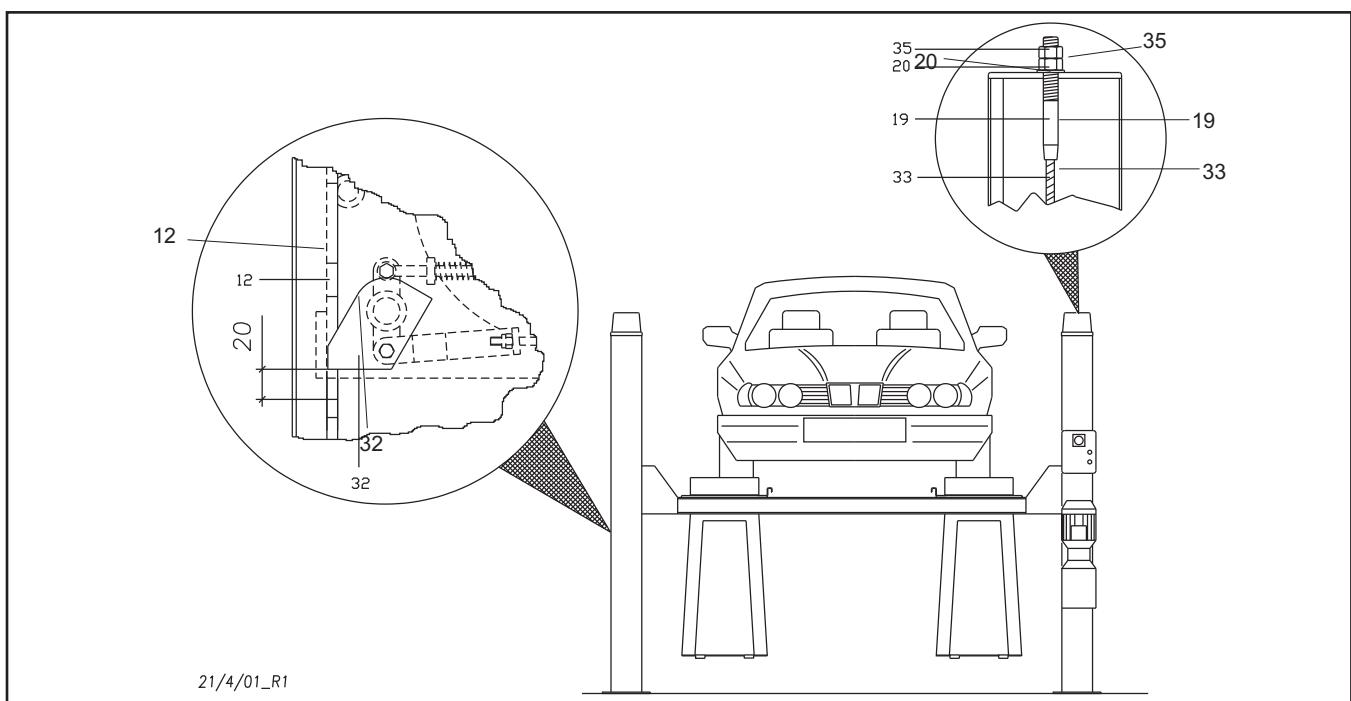

Fig.60 Adjusting the lift cables
Check if the distance between the wedges (32) and the slots of the safety rods (12) on the 4 posts (1-2-3-4) is at least 20 mm from the support (fig. 60); a lower value would not allow the safety device to rotate, and it would stay attached to the rod.